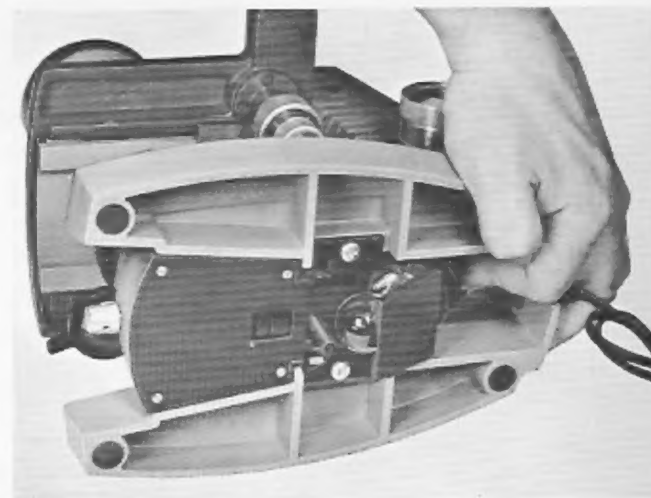

Figure 26. Changing Lamp in "In-Base" Illuminator
- b. **Changing Lamp** (See figure 26). The lamp is easily replaced by tilting the microscope over on its side, swinging the lamp socket out on its pivot as illustrated. The lamp is of the pre-focus type and is removed by pushing down and turning slightly counterclockwise to disengage the slots from the pins. A special tool, AO #1036-856, consisting of a fiber tube with a